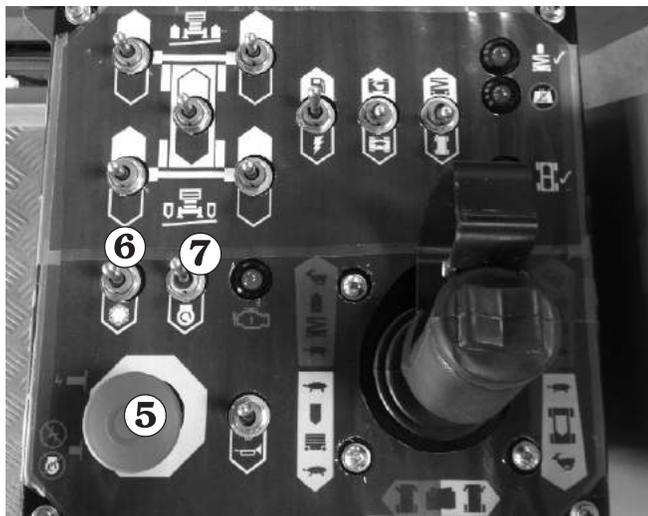

Figure 11.20
7. Turn the **Emergency Stop** switch ⑤ clockwise and it will pop out (on) (see Figure 11.20).
8. If the engine is cold, press and hold the **Choke** switch ⑥ (see Figure 11.20) during the next step.
9. Press and hold the **Start** switch ⑦ down until the engine starts or for 20 seconds, whichever comes first. When the engine starts, release both the start switch ⑦ and the choke switch ⑥ (see Figure 11.20).